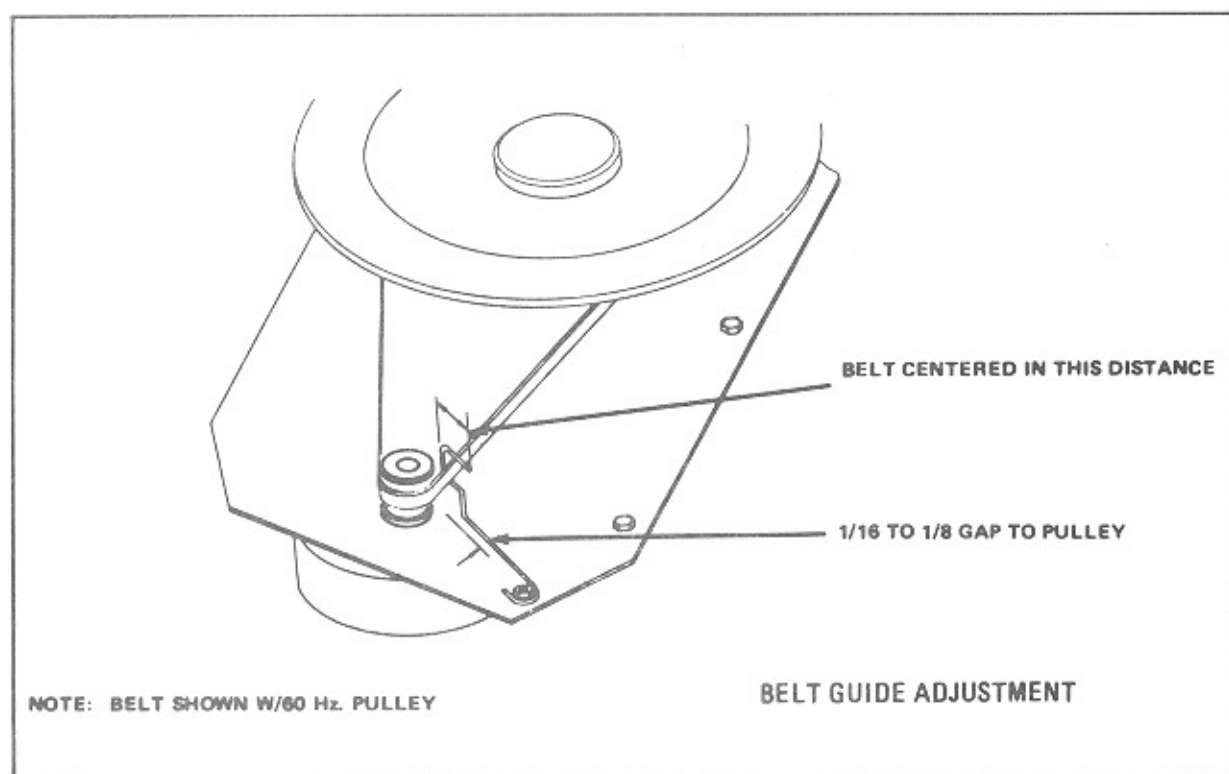

Figure 3-22. Belt Guide Adjustment
2. Adjust as shown in Figure 3-22.